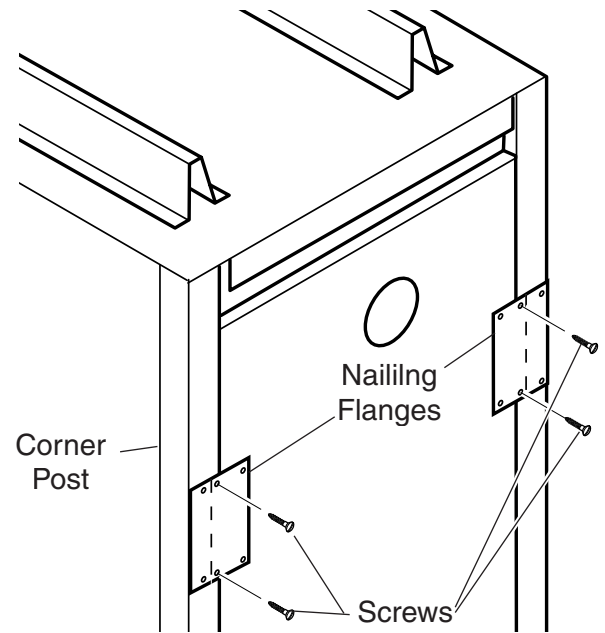
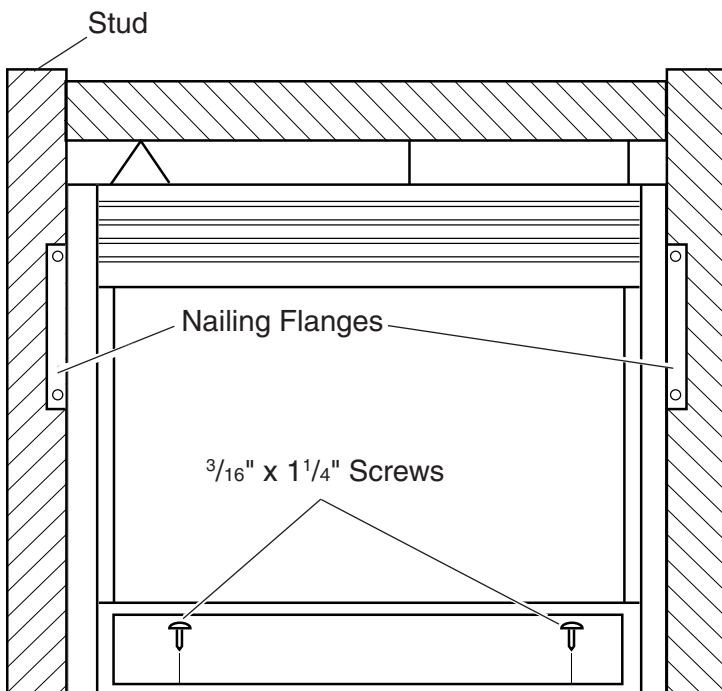

Figure 16 - Location of Unsecured Pre-Attached Nailing Flanges
Figure 17 - Location of Nailing Flanges and Floor Screws
1. Locate pre-attached nailing flanges on the end of firebox as shown in *Figure 16*. DO NOT REMOVE PRE-ATTACHED NAILING FLANGES.
2. Secure nailing flanges to corner posts using four (4) self-taping screws. See *Figure 16*.
4. Bend out four (4) nailing flanges to 90°.
6. Attach nailing flanges to studs. See *Figure 17*.
8. Anchor firebox to floor with four $\frac{3}{16}$ "x $1\frac{1}{4}$ " screws through holes located on the bottom of the firebox. See *Figure 17*.